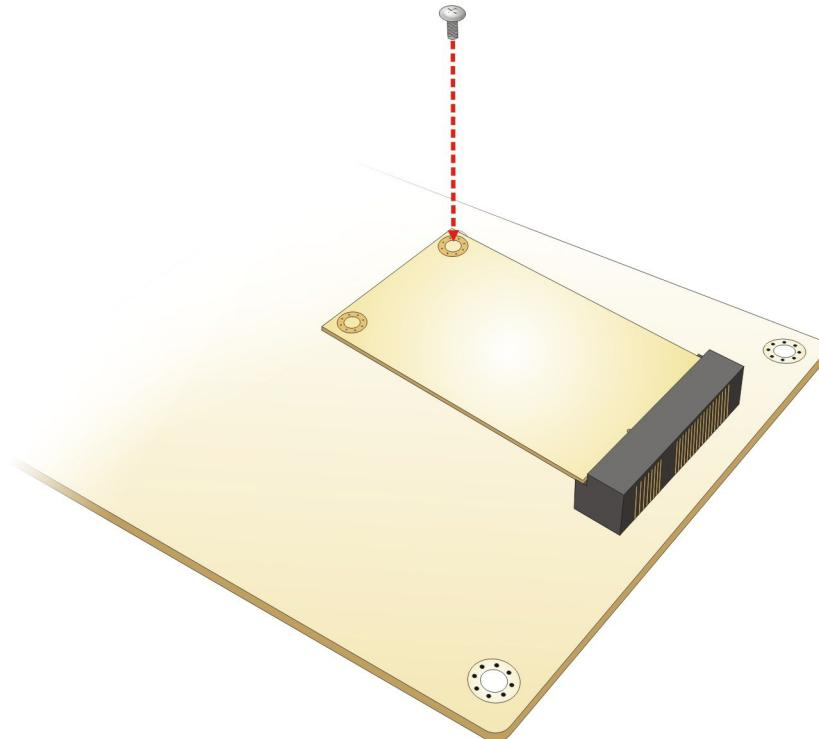

Figure 4-5: Securing the Full-size PCIe Mini Card
Step 5: Secure the full-size PCIe Mini card. Secure the full-size PCIe Mini card with the retention screw previously removed (**Figure 4-5**).
Step 4: Secure the half-size PCIe Mini card. Secure the full-size PCIe Mini card with the retention screw previously removed (**Figure 4-5**).